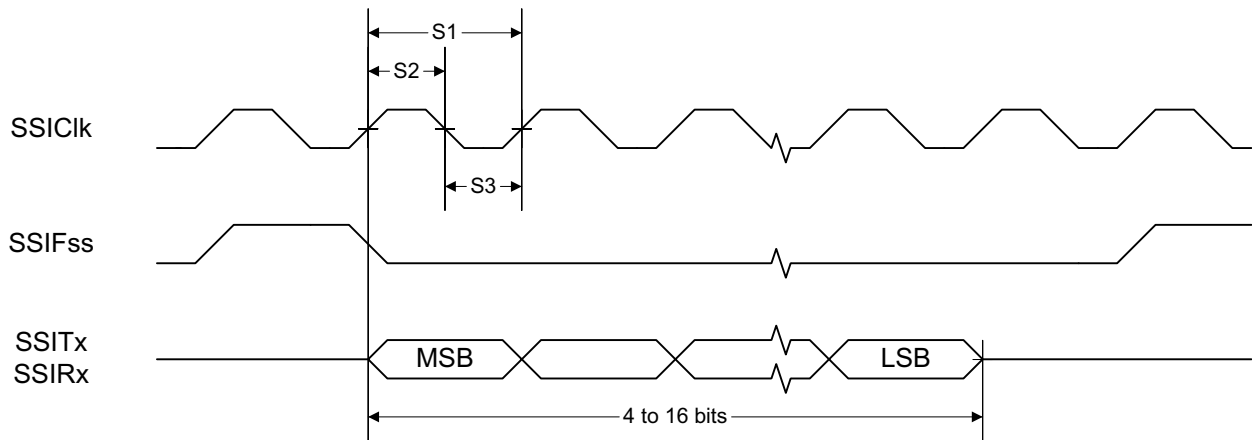

Figure 7-1. SSI Timing for TI Frame Format (FRF = 01), Single Transfer Timing Measurement
- (1) Refer to SSI timing diagrams Figure 7-1, Figure 7-2, and Figure 7-3.
- (2) When using the TI-provided Power driver, the SSI system clock is always 48 MHz.